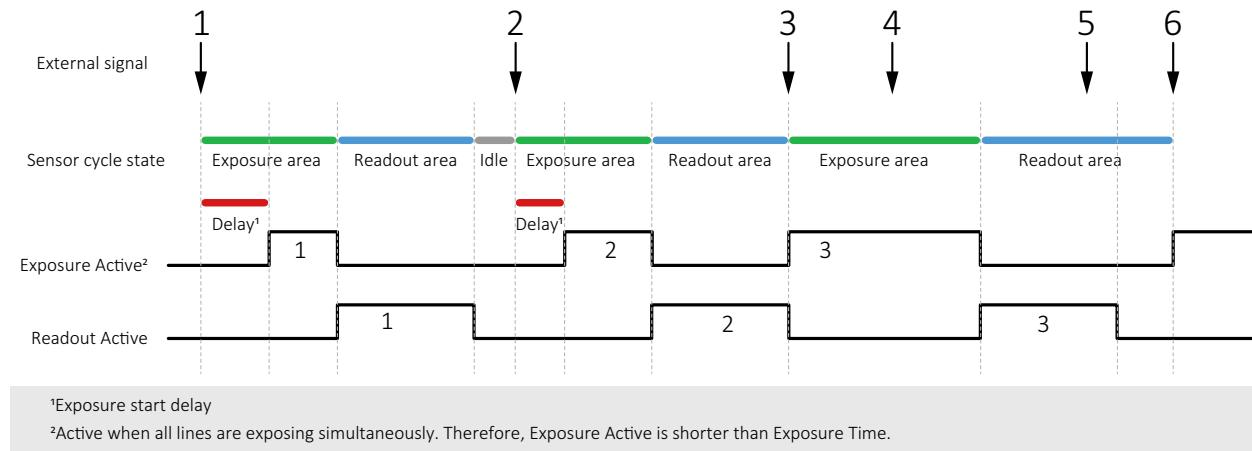

Figure 83: Triggering rolling shutter (RS) cameras
This section describes triggering behavior for **1500 C-210m/c** and **C-500m/c**, and for **1800 C-1240m/c** and **C-2050m/c**. Figure 83 shows how an external signal triggers exposure and readout for cameras with rolling shutter (RS) sensors. Like for global shutter (GS) sensors, readout has a constant duration, acquisition must be active to enable exposure, the end of exposure starts readout.
The signals displayed in Figure 83 represent logical states, not user controls.